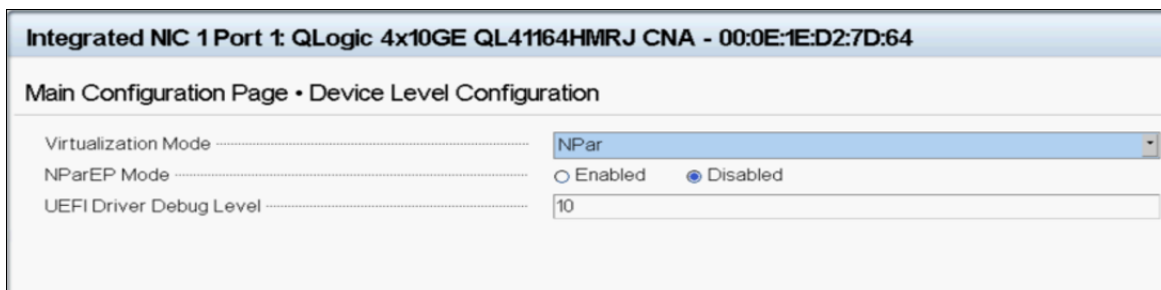

Figure 6-19. Integrated NIC: Device Level Configuration for VMware
6. Complete the Device Level Configuration page (see Figure 6-19) as follows: